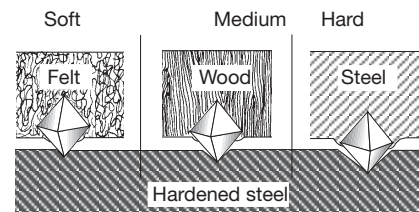

Fig. 6. The hardness of the carrier affects the exposure of the diamond grains and the removal rate.
- With softer carrier the abrasive is able to penetrate deeper into the carrier. This will result in that the surface will be finer for the same size of abrasive. See Figure 6 below.